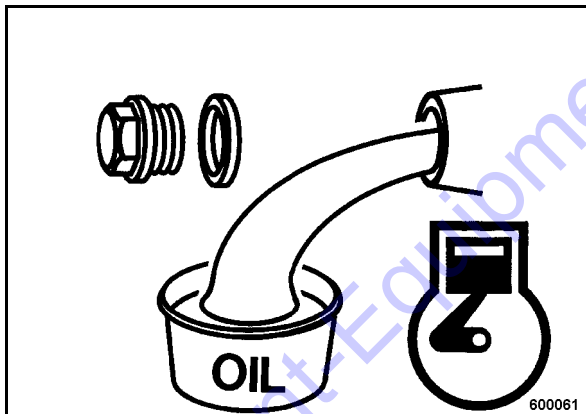

Fig. 47
- Unscrew the oil drain plug (Fig. 47), let the old oil run out and catch it.